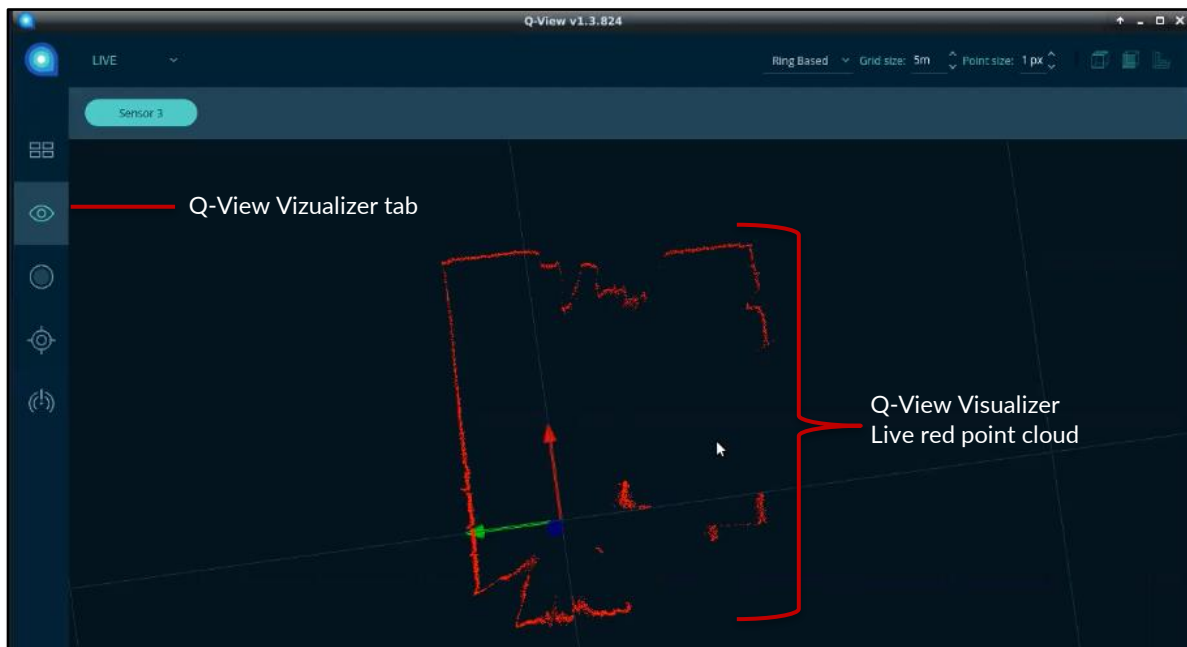

Figure 68. Q-View Visualizer Live Point Cloud, Sensor Connected
3. Verify the connection, view live data from the connected sensor. See Figure 68. Q-View Visualizer Live Point Cloud, Sensor Connected.